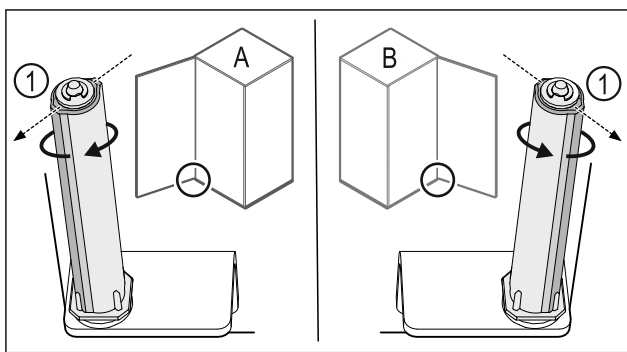

Fig. 49 Left-hinged (A) / Right-hinged (B)
- Turn the closing system against the resistance until the bar of the closing system Fig. 49 (1) points outwards.